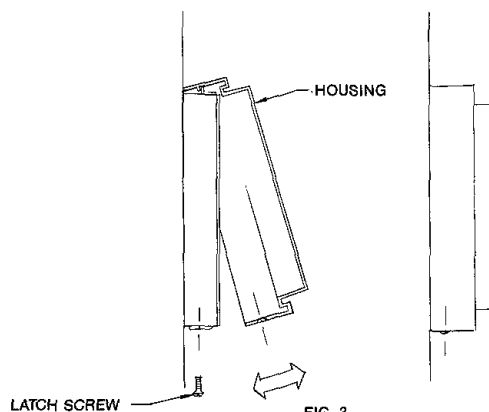

FIG. 3
1. Disassemble fixture by removing LATCH SCREW visible at side. HOUSING "hinges" down for removal. See Fig. 3. **NOTE:** A #10 allen wrench (not provided) is required for 6580 and 6581.
5. Mount diffuser HOUSING to FIXTURE BODY by tilting HOUSING to engage lug with projection of FIXTURE BODY. Swing HOUSING into position, seating against GASKET. See Fig. 3.
6. Press HOUSING into alignment against GASKET and secure with LATCH SCREW. See Fig. 3.